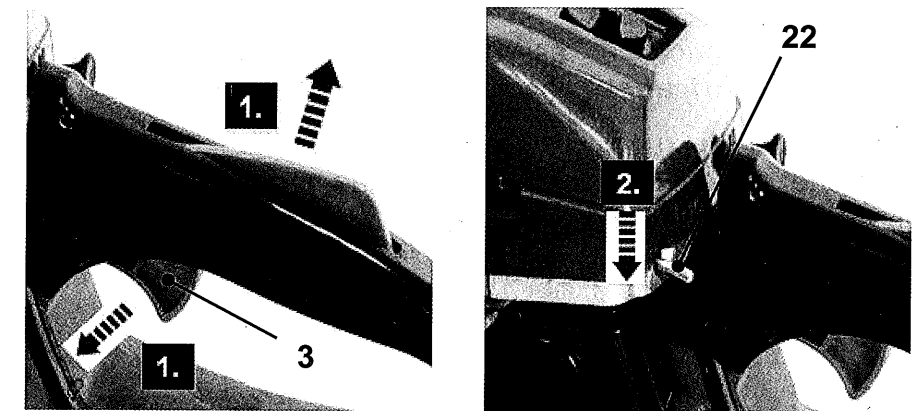

Fig. 24
1. Release the throttle interlock (2) / throttle trigger (3) and let the product run at its idle speed for 10 – 15 seconds.
2. Set the ignition switch (22) to lower position \downarrow_{STOP} (STOP position) (Fig. 24).